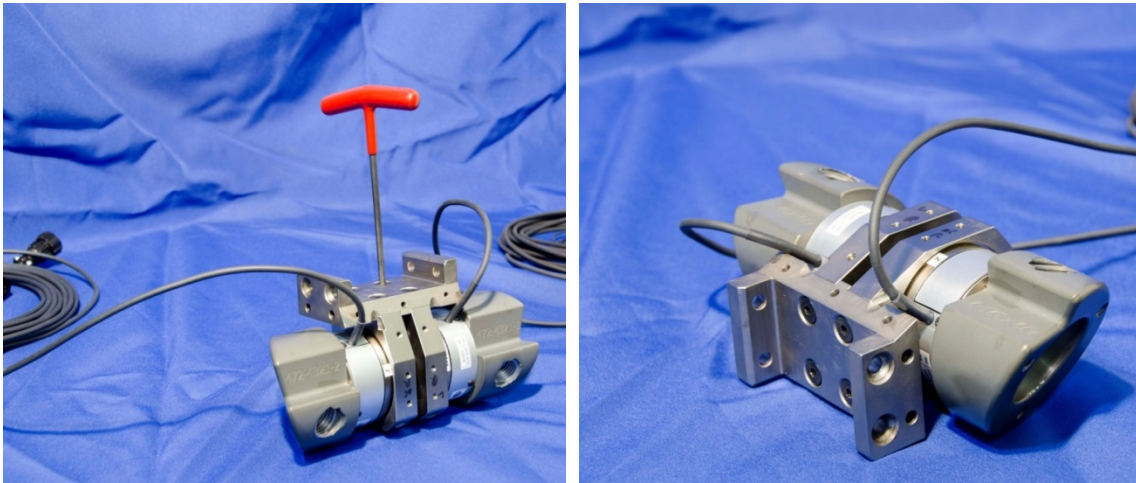

Figure 10-10. Bolt left and right load cell assemblies to rear plate
10.2.2.5 Bolt the Left and Right Socket/Load Cell Assemblies to the Pelvis Rear Plate (472-4205) using four M6 x 20 FHCS, as shown in Figure 10-10.